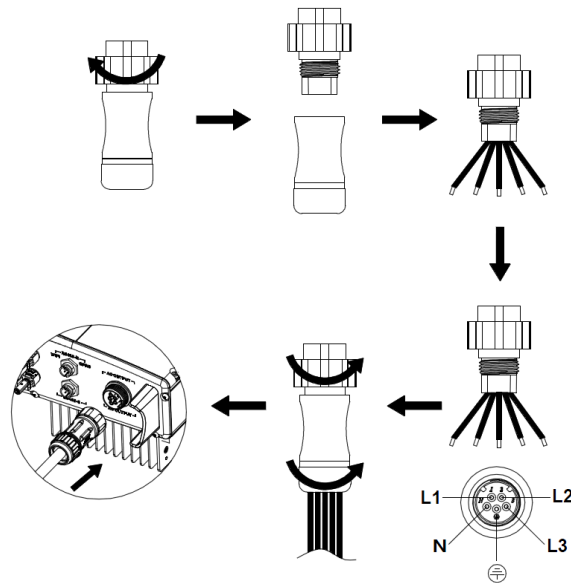

Figure 14: wiring of AC connector
2. As shown in Figure 14, connect and fasten L1, L2, L3, N and PE conductors of the three-phase grid to the AC terminal with 0.5 Nm torque. Tighten the terminal with tightening torque of 2.5-3 Nm, and then connect the terminal to the AC port of the inverter.